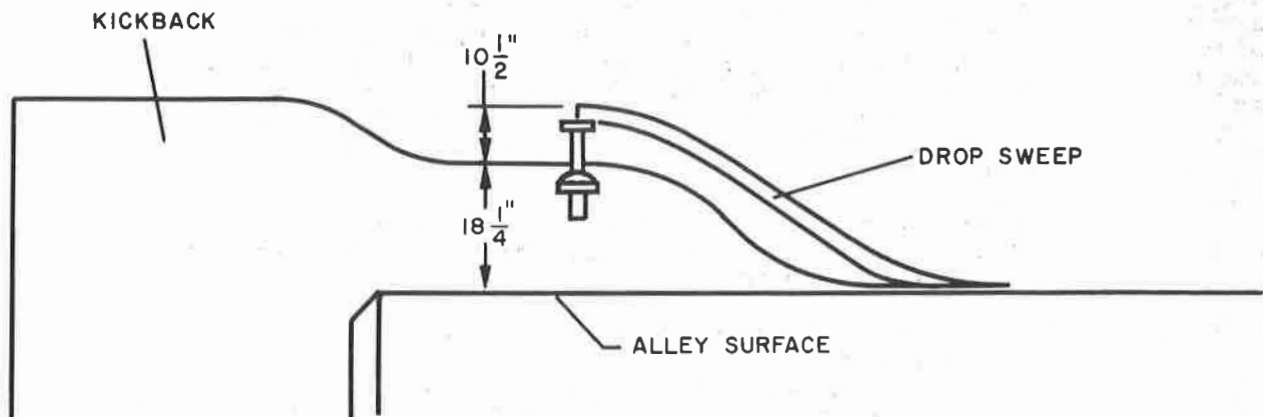

Figure 121. Drop Sweep
- Remedy l: Drop sweep should be 10-1/2" above kickback and in good condition (see Figure 121).